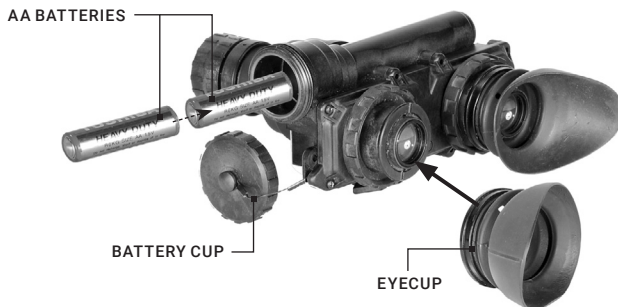

FIGURE 2-1. BATTERY AND EYE CAP INSTALLATION
3. Following the polarity markings on the outside of the battery compartment, insert either two AA (1.5 V) batteries into the battery compartment, positive (+) end first (see Figure 2-1).
To install the eyecups (refer to Figure 2-1):